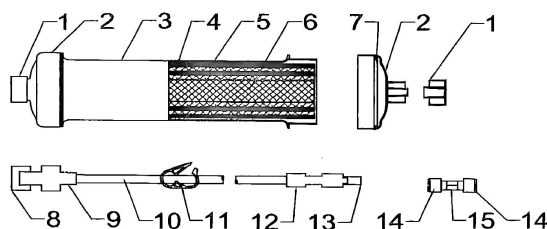

Figure 1. Structural diagram of the Adsorber
A schematic diagram of the Adsorber structure is shown in Figure 1.
As shown in Figure 1, the Adsorber is composed of the following components: external port cap (1), end cap (2), housing (3), flow distribution mesh (4), adsorption membrane (5), core rod (6), sealing